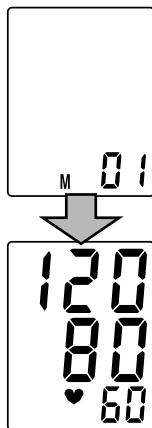

Fig .7
3. Press the M Button to see the figures stored in the memory. At first pressing on the M Button the average value of three recent measurements stored in the memory with index "A" will appear on the screen. At second pressing on the M Button the screen will show for a short time index "1" (number of the memory cell) and after this the recent measurement result (Fig. 7). At each subsequent pressing on the M Button the index of the next number of the memory cell will flash and the content of this cell will be displayed.